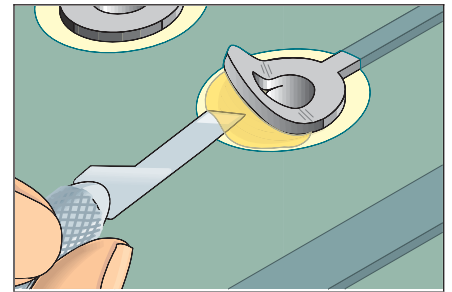

Figure 1 Apply epoxy under the entire length of the lifted land.
4. Carefully apply a small amount of epoxy under the entire length of the lifted land. The tip of a knife or scraper may be used to apply the epoxy. (See Figure 1.)